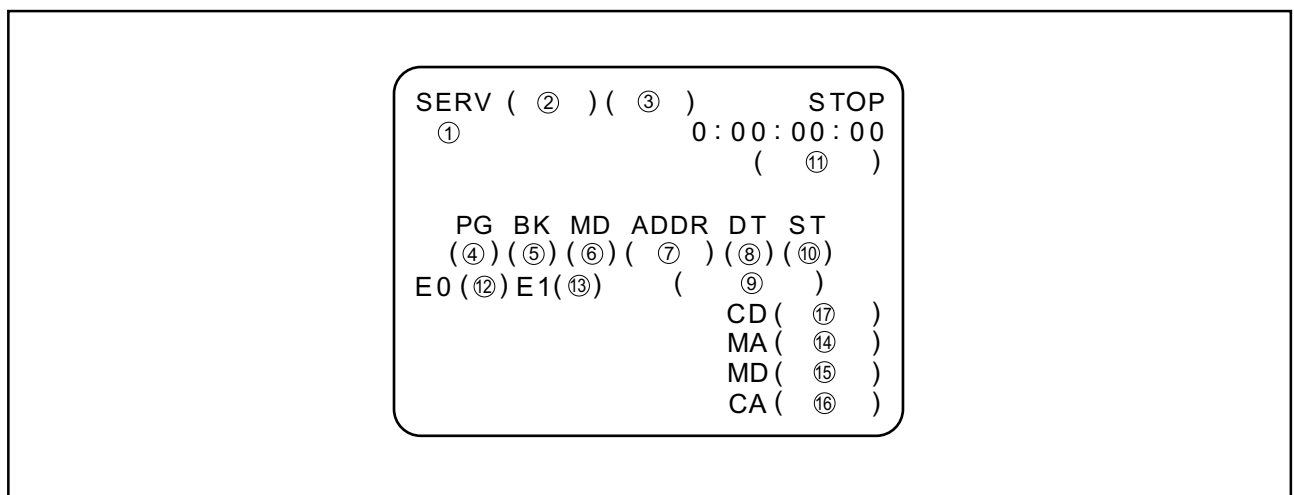

Fig. 3-3
- (1) Setting the address according to the table below allows to check whether the lens resetting is ended or not.
- (2) The 1st digit of binary number indication (Fig. 3-3 ⑨) of data is for zoom, and the 2nd for focus resetting. Resetting is ended if 1 is indicated.